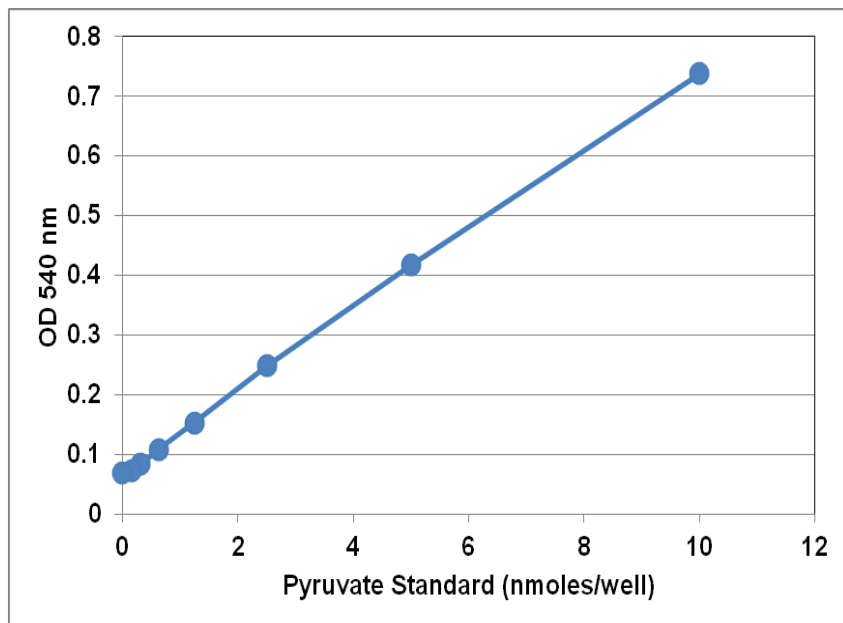

Figure 2: Example Pyruvate Standard Curve.
2. Graph the standard curve with the corrected absorbance values (see Figure 2 for an example standard curve).